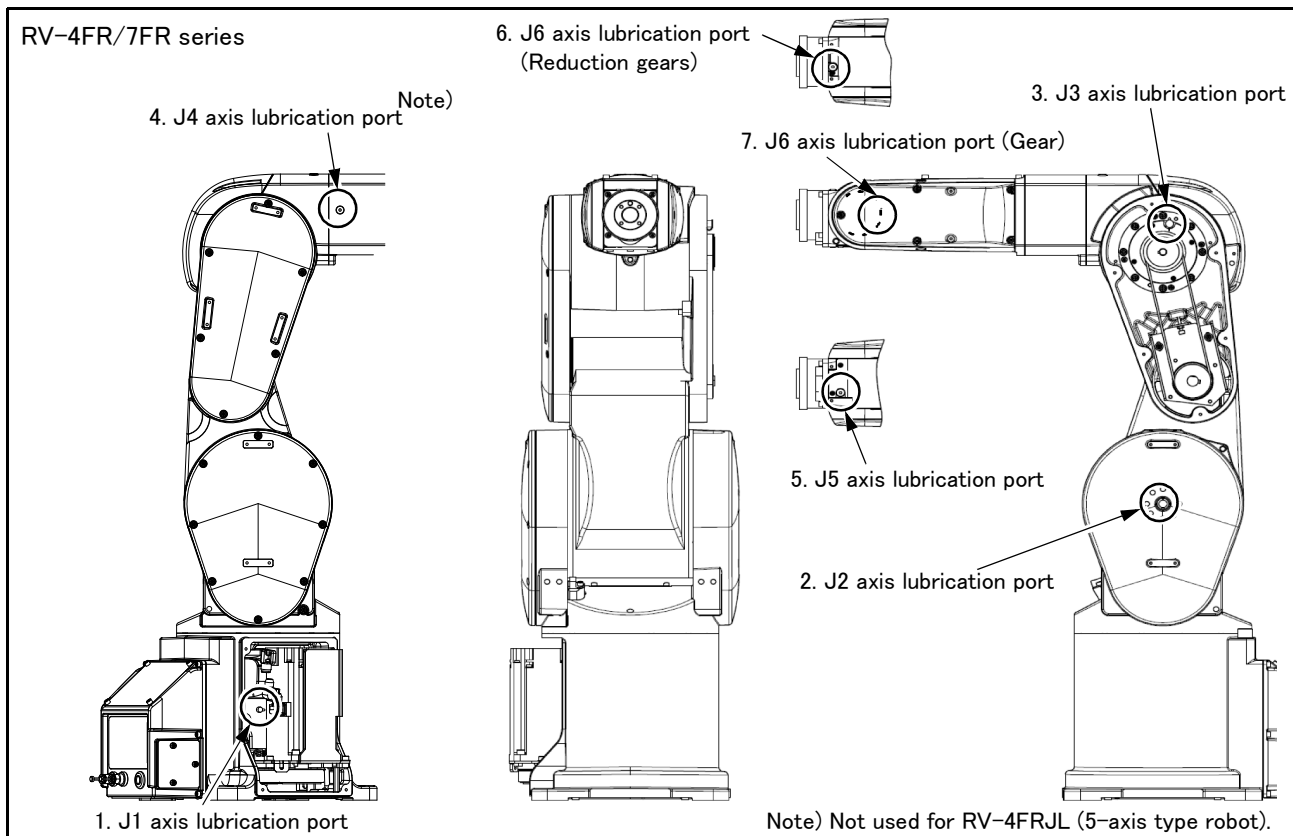
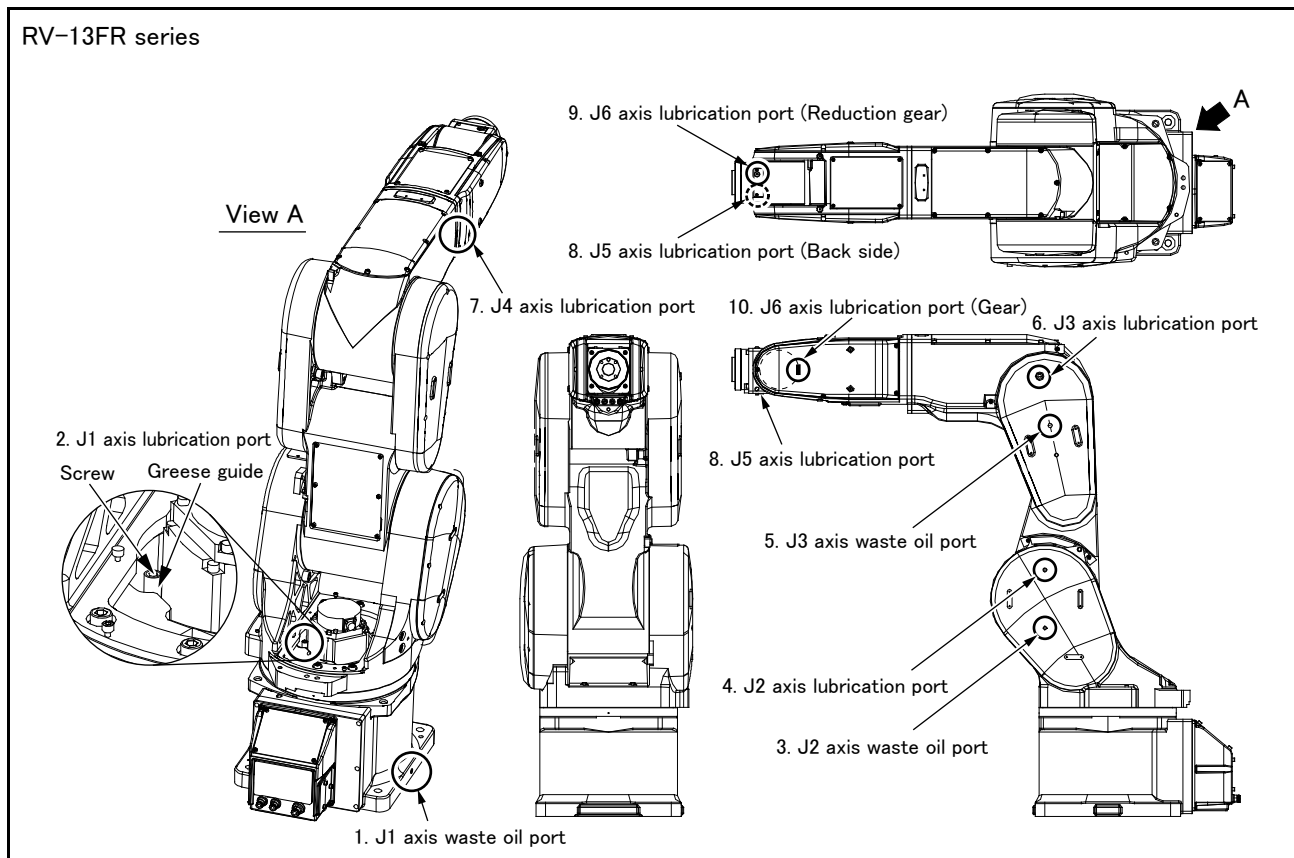

Fig.5-28 : Lubrication positions (RV-4FR/7FR series)
Fig.5-29 : Lubrication positions (RV-13FR series)
The grease nipple position is shown in Fig. 5-28 (RV-4FR/7FR series) or Fig. 5-29 (RV-13FR series). The lubrication specifications for each place are shown in Table 5-11. Refer to the Page 104, "5.3.2 Installing/removing the cover" for the method of removing and installing the cover.
- The numbers in Table 5-11 correspond to the supply positions in Fig. 5-28 (RV-4FR/7FR series) or Fig. 5-29 (RV-13FR series).
- 1) Set the robot to the posture shown in Fig. 5-28 (RV-4FR/7FR series) or Fig. 5-29 (RV-13FR series).